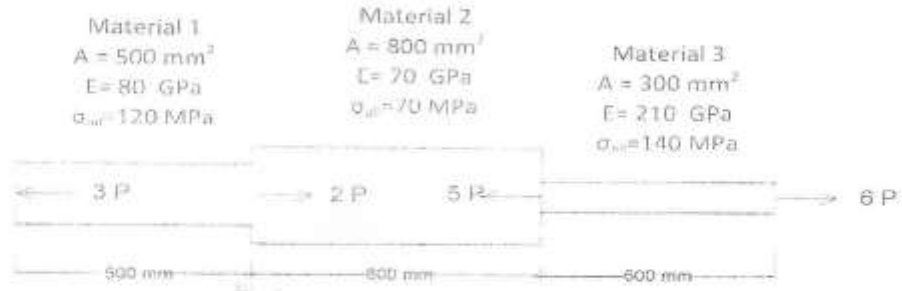

Fig.2
Q2: For the rod of variable cross sectional area and different materials as shown in Fig.2. Find the maximum safe force (P).